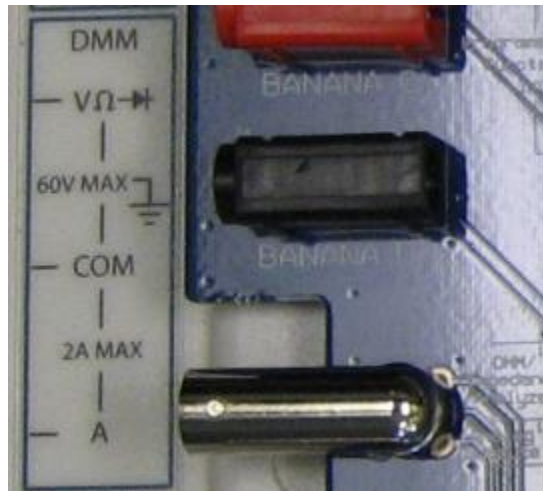

Fig. 4. DMM Ports on the Elvis Prototype Board.
3. Connect the two terminals of the resistor between V and COM terminals as shown in Fig. 4. banana jack connections (refer to Fig. 4).